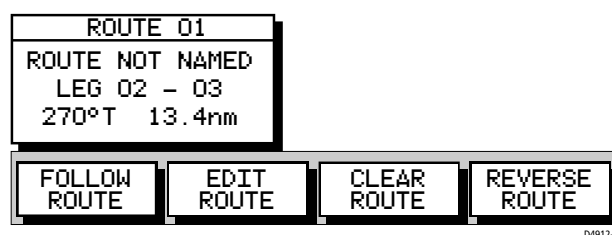

Figure 3-34: Route Leg Data Box and Soft Keys
- To display information about a route leg, move the cursor over the leg until the letters **RTE** appear. The Route Leg data box is displayed, together with the Follow Route soft keys as shown in *Figure 3-34*.
The Route soft keys are displayed as shown in *Figure 3-34*.
1. Move the cursor over the route leg into which a waypoint is to be inserted; the letters RTE appear and the Route Leg Data Box and Route soft keys are displayed, see *Figure 3-34*.